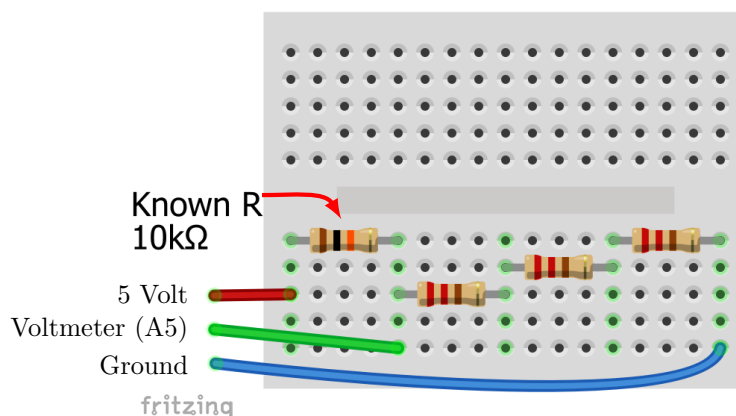

Figure 3: Three resistors in series circuit diagram
1. Construct circuits that contain at least two or three resistors in series (Figure 3) and measure the resistance with your ohmmeter. If necessary, replace your  $R_1$  with a resistor suitable for the resistance you are measuring.